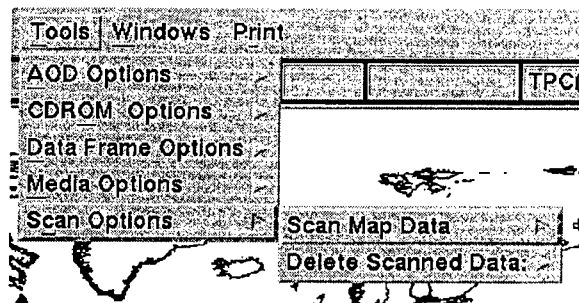

Fig. 49 — Scan options
*Scan Options* include scanning paper charts into the CAC format (including all phases of compression) and deleting scanned data from MMC (Fig. 49).